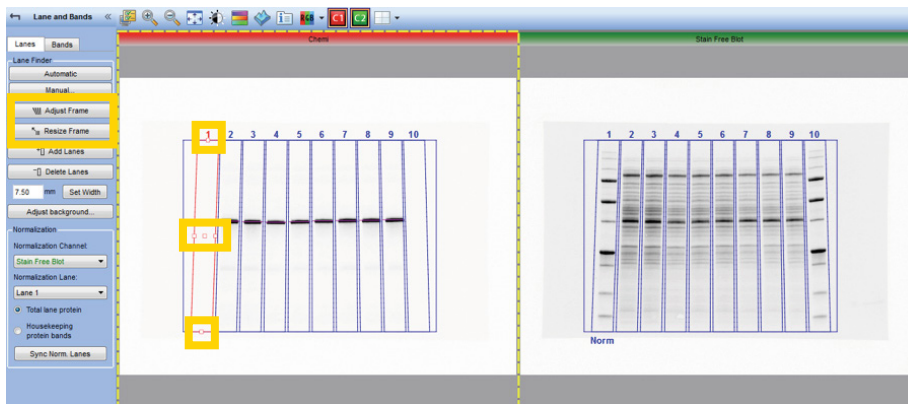

Fig. 5. Manual lane adjustment.
- If needed adjust the lane frame by using the **Adjust Frame** and **Resize Frame** buttons (Figure 5). Adjust the individual lanes by selecting the lane that needs adjustment and moving the anchor points (Figure 5)